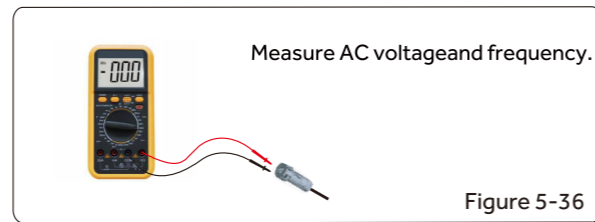

Figure 5-36
- Ensure that the DC cable is current-free via a current clamp (Figure 5-36) .